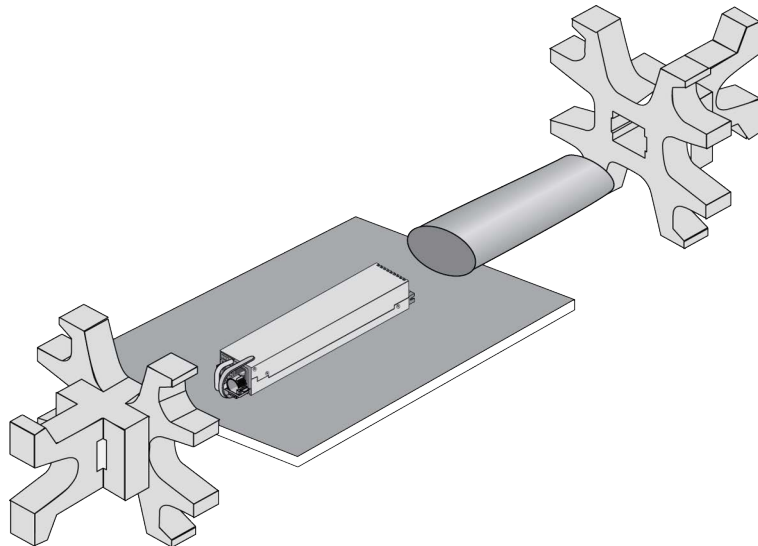

Figure 56. Removing the Power Supply from the Shipping End-caps and Protective Bag
4. Remove the power supply from the shipping end-caps and protective shipping bag. Refer to Figure 56.